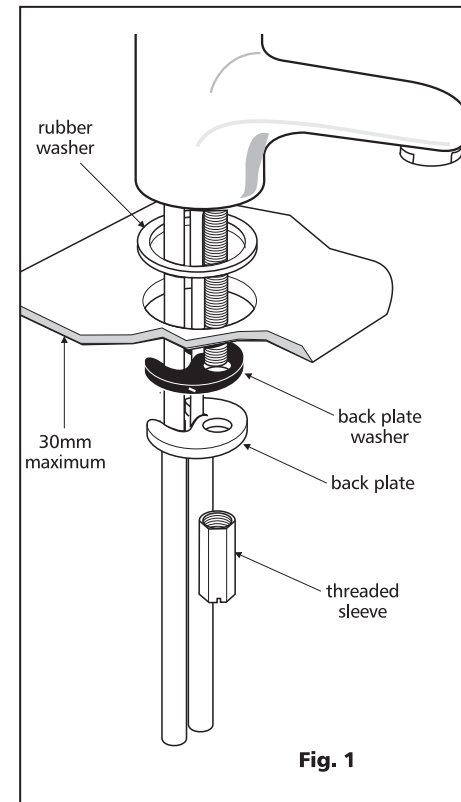

Fig. 1
2. Connect the fitting to the pottery as per Fig. 1 and connect the waste system.